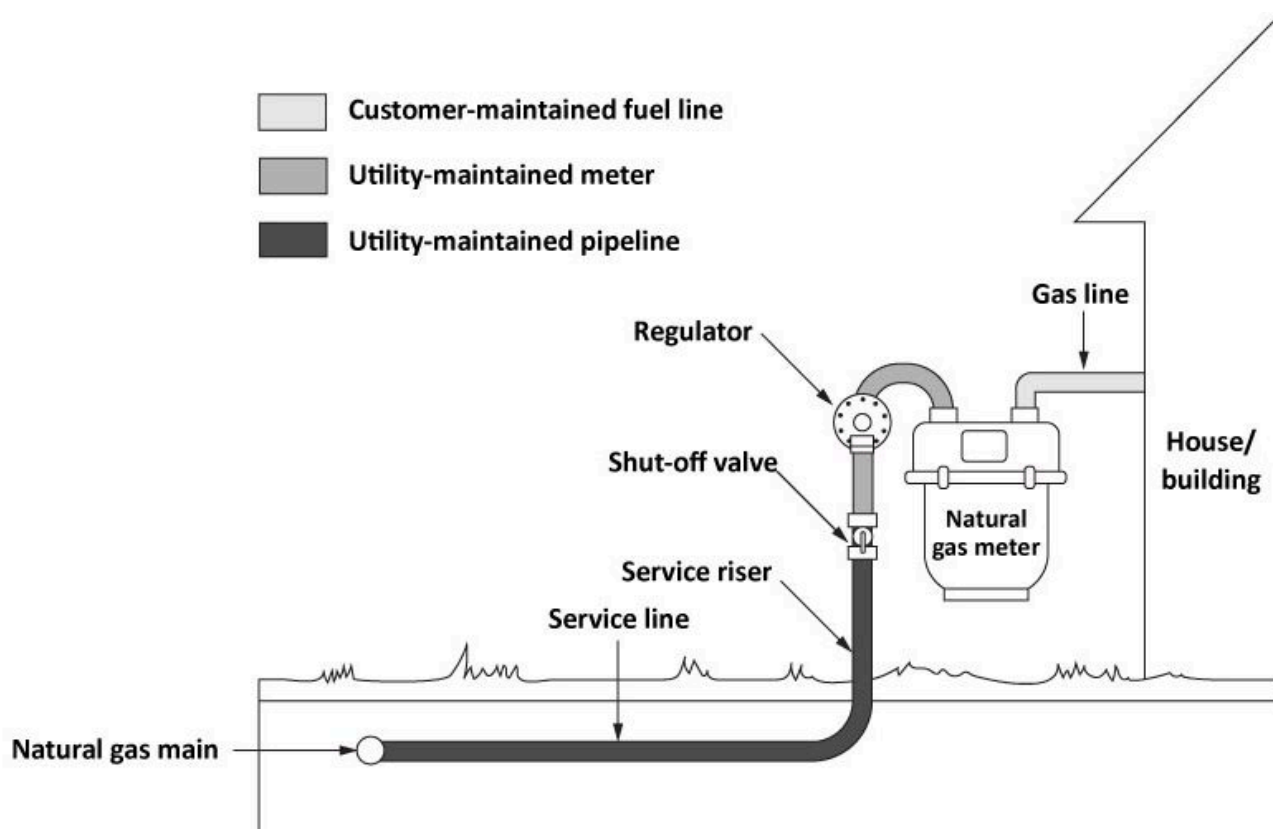

Figure 5. Consumer gas service.
The gas utility installs and maintains the gas service, which includes the service line, service riser, service stop (valve), service regulator, and meter (Figure 5).
- Figure 5 “Consumer gas service” by Camosun College is licensed under a CC BY 4.0 licence (<https://creativecommons.org/licenses/by/4.0/>).